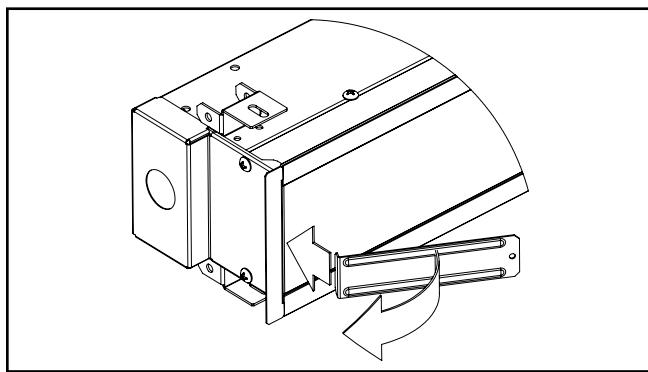

Figure 4.
3. Once the endcap is removed, the lens can now be removed either by sliding it out the open end, or removing it using the L shaped lens removal tool supplied with the fixture. To remove lens using removal tool, place it in the gap between the lens and the endcap, under the lens, and pry out. See Figure 4.